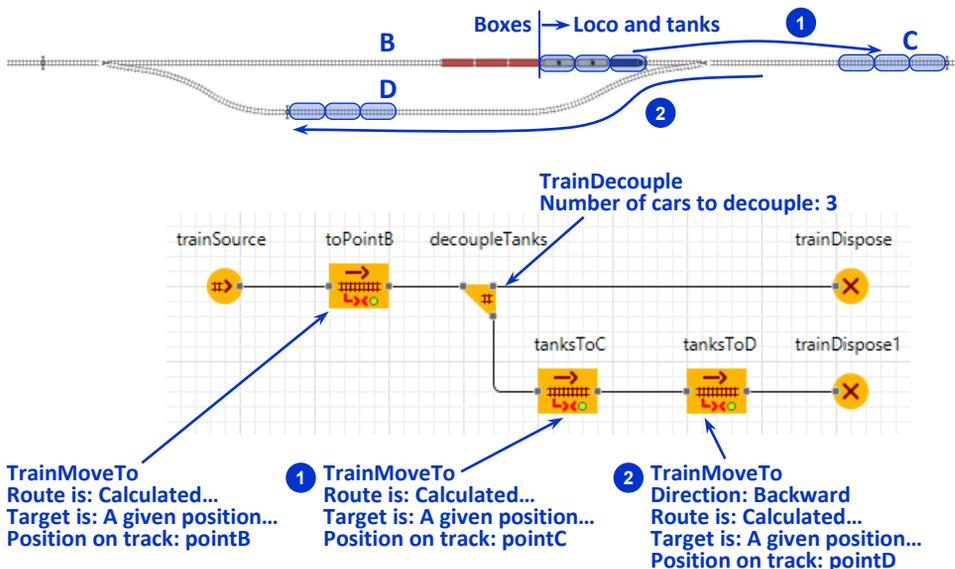

Figure 9.21 The first step of the classification process: tank cars are decoupled and moved to D
12. Add three **Position on Track** elements: **pointB** on **trackB** at X=700, **pointC** on **trackC** at X=950, and **pointD** on **trackD** at X=400 (see Figure 9.21).
13. Modify the flowchart as shown in Figure 9.21.